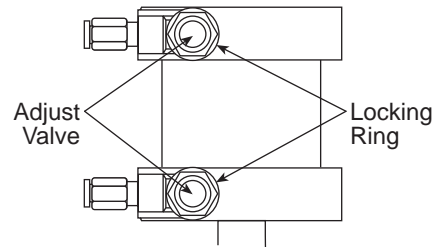

Figure 4-5: Adjusting the Air Cylinder Flow Controls
If the top main roll or top pull roll move up or down unevenly, the air cylinder flow controls need to be adjusted (see Figure 4-5).
2. Using the grease gun, lubricate each grease fitting (shown in Figure 4-5) with one squirt of high temperature grease.